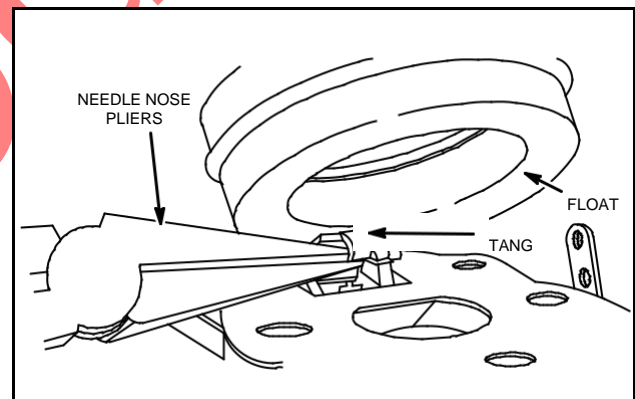

Fig. 38 – Adjust Float Height
8. Bend tang to adjust, if necessary, using needle nose pliers, Fig. 38.